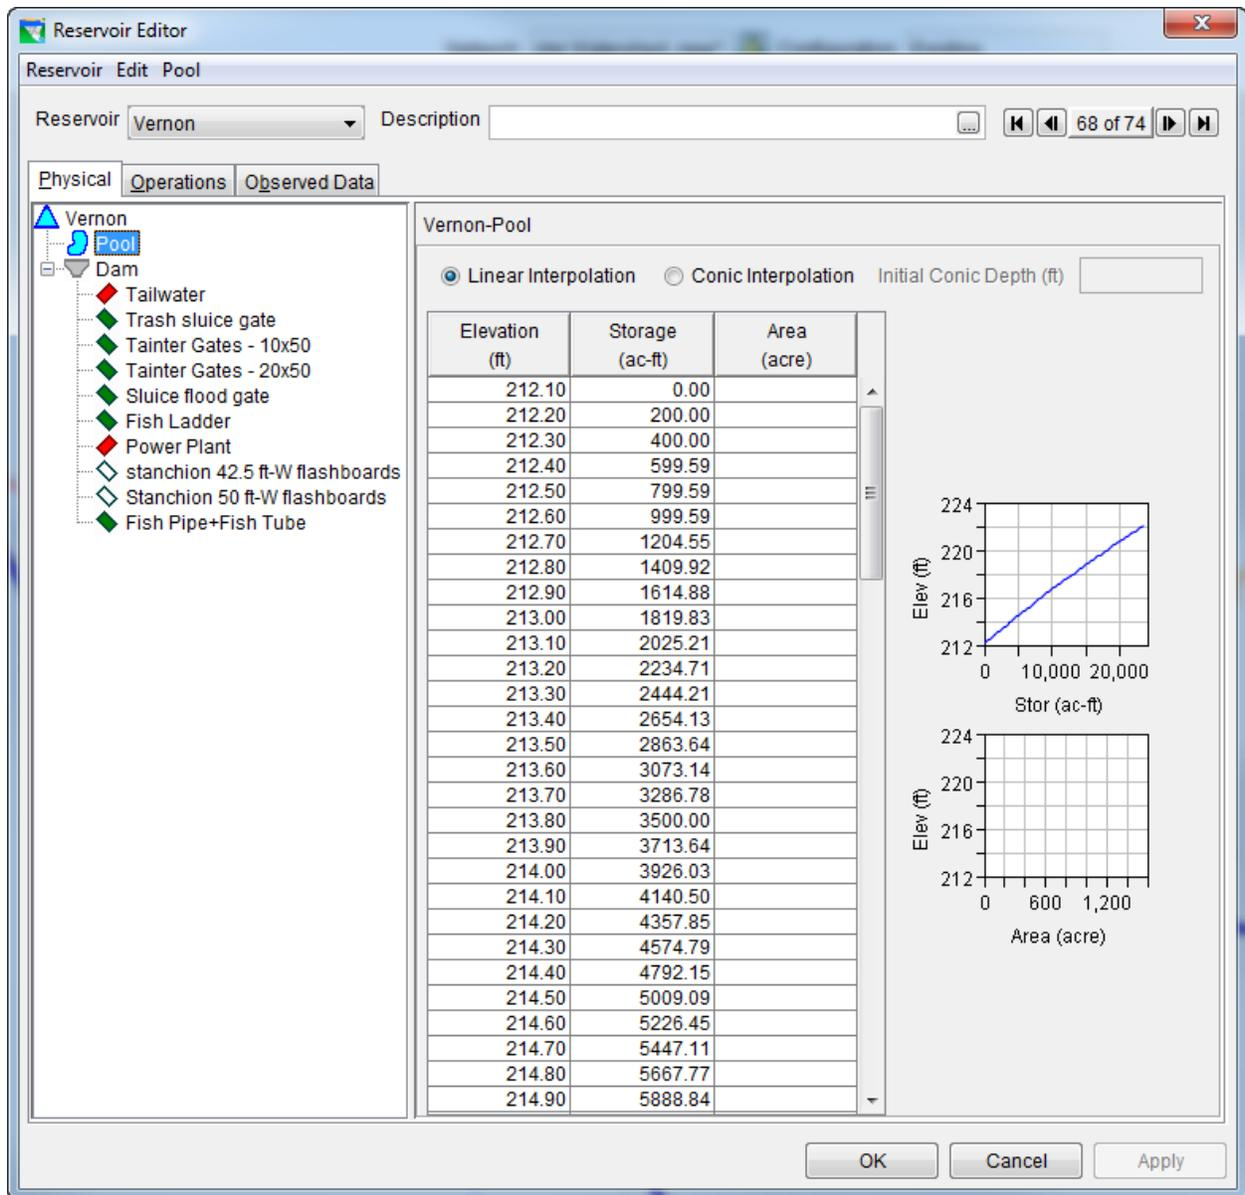
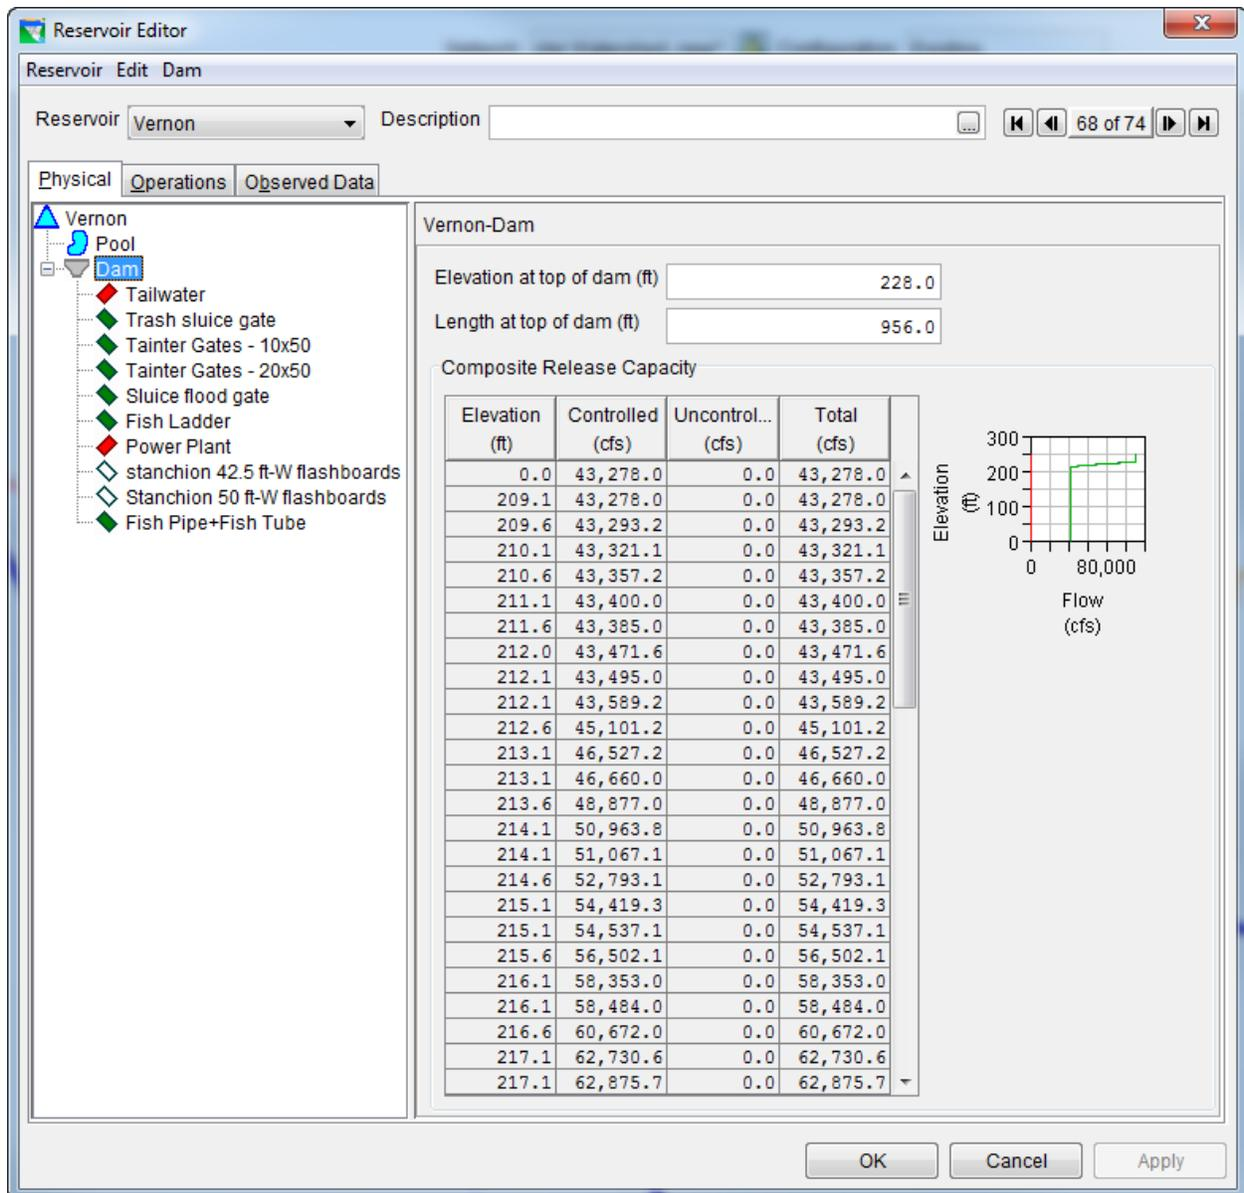

Figure 3: Reservoir Editor: Physical Tab -- Pool
Figure 4: Reservoir Editor: Physical Tab -- Dam
The physical characteristics of the reservoir are separated between the Pool and the Dam in the HEC-ResSim model. The elevation-storage-area defines the pool as shown in Figure 3101. The dam consists of an uncontrolled outlet as shown in Figure 4.
The physical characteristics of the reservoir are separated between the Pool and the Dam in the HEC-ResSim model. The elevation-storage-area defines the pool as shown in Figure 3103. The dam consists of nine types of outlets: (1) controlled Trash sluice gates, (2) controlled Tainter gates-10\*50, (3) controlled Tainter Gates-20\*50, (4) controlled sluice flood gate, (5) controlled Fish ladder, (6) uncontrolled stanchion 42.5 ft- W flashboards, (7) uncontrolled stanchion 50 ft-W flashboards, (8) controlled Fish Pipe+Fish Tube , and (9) power plant as shown in Figure 4.